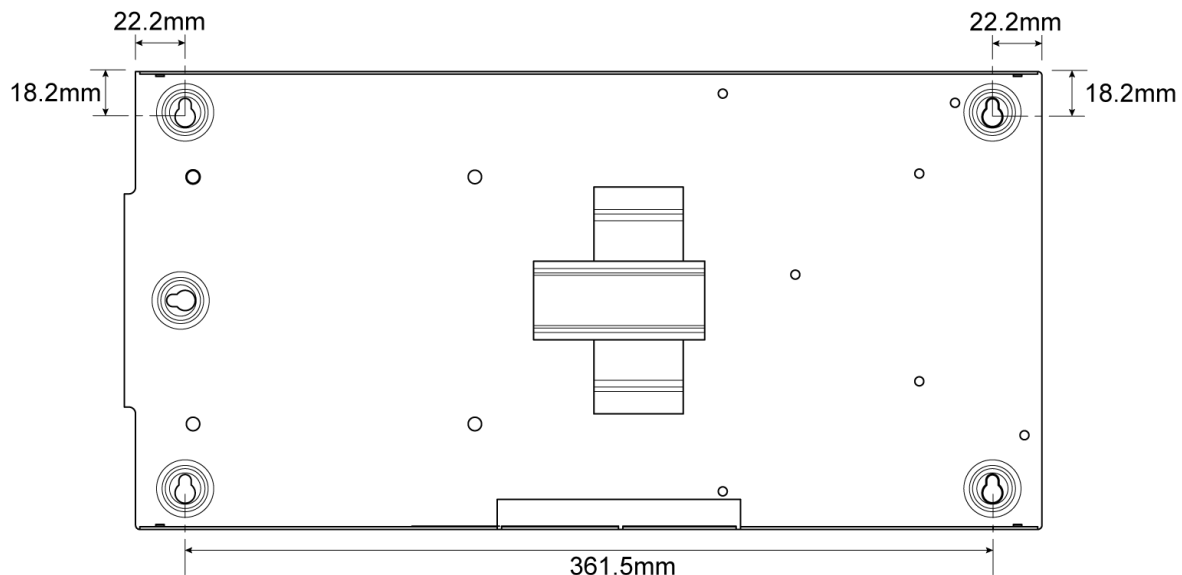

Figure 3: Dimensions of mounting hole centres
- b. Measure and mark positions of four or five securing screws, according to whether the unit is to be mounted horizontally or vertically. The dimensions of the hole centres are given in Figure 3